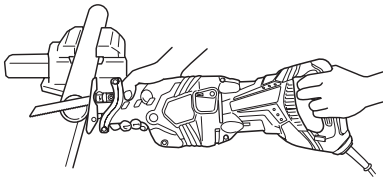

Fig. 21
- (1) Fasten a workpiece firmly before operation. (Fig. 21)